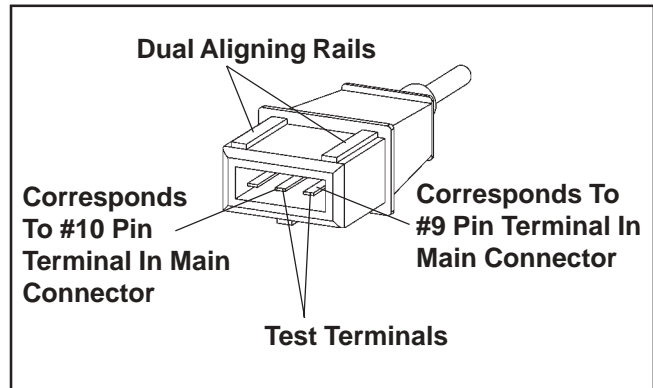

Figure 5B-4. Speed Sensor Connector.
6. Disconnect the speed sensor connector from the wiring harness. It is the connector with one heavy black lead (see Figure 5B-4). Viewing the connector as shown (dual aligning rails on top), test resistance between the terminals indicated. A reading of  $750\text{-}1000 \ \Omega$  should again be obtained.